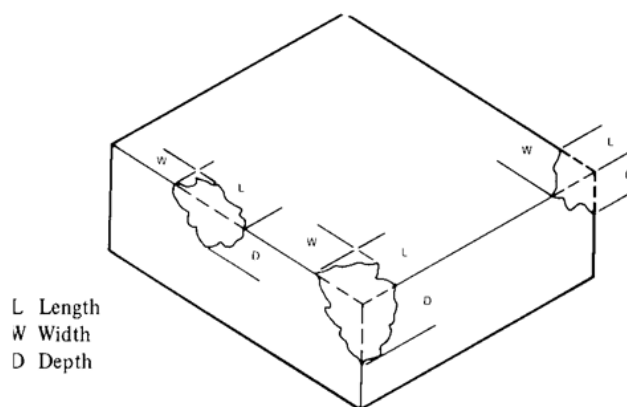

Figure 1
3.1.2 *chip* — region of ceramic missing from the surface or edge of a package which does not go completely through the package. Chip size is given by its length, width and depth from a projection of the design plan-form (refer to Figure 1).